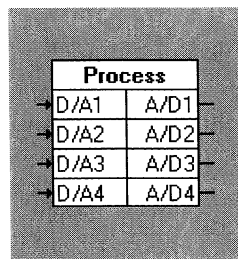

Figure 48 The Process Block
- 2) Start the CE2000 software. It will open with a blank circuit page that contains a Process Block (see Figure 48).